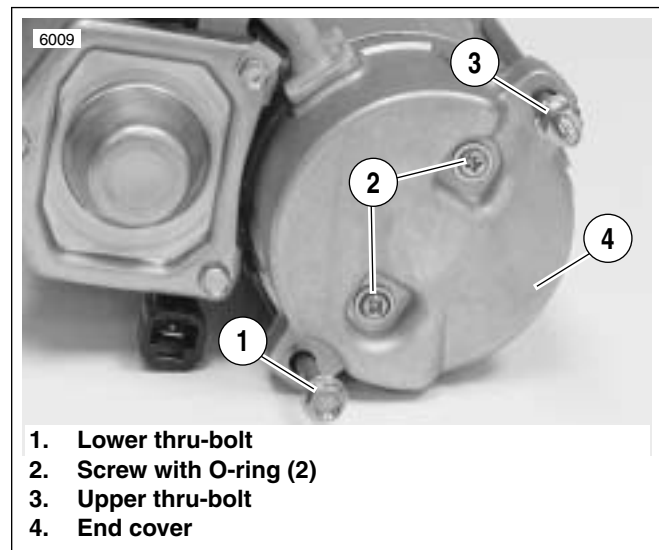
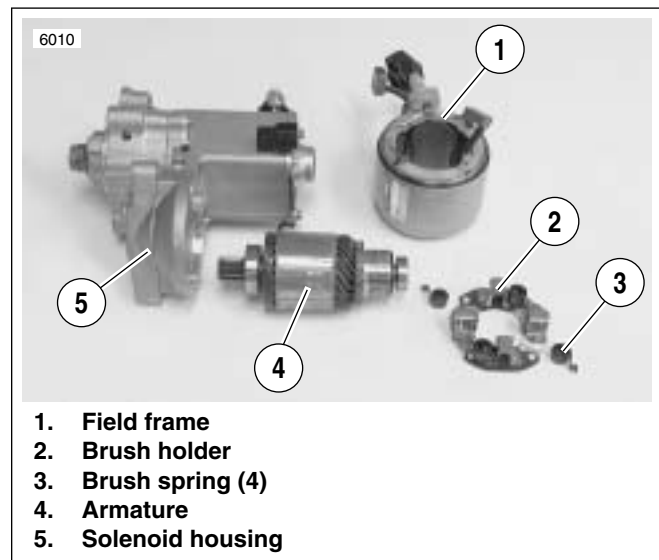

Figure 5-15. Removing the Thru-Bolts
Figure 5-16. Starter Components
2. See Figure 5-15. Remove both through-bolts (1, 3).
3. Remove both end cover screws with O-rings (2) and end cover (4).
4. See Figure 5-16. Use a wire hook to pull upward on brush springs (3), and lift brushes out of holder (2). Remove brush holder.